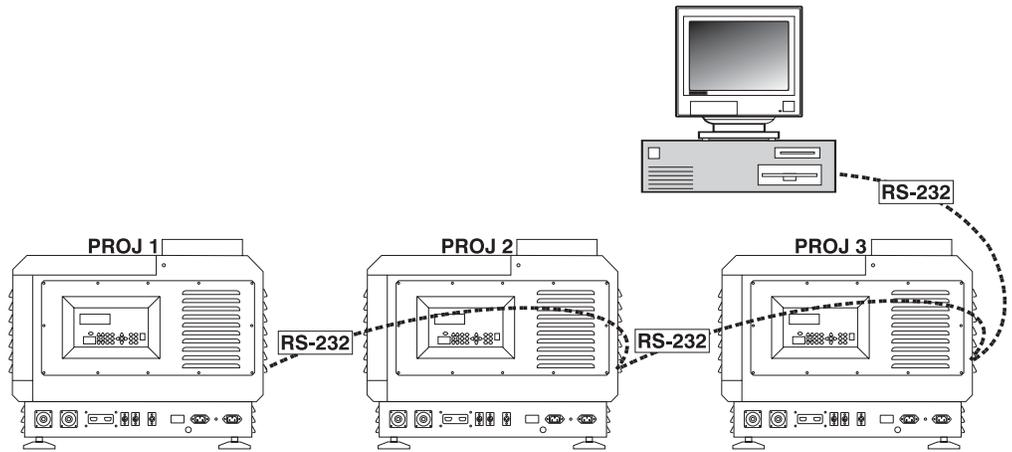

Figure 2.32. Typical RS232 Network
**RS232 NETWORK:** To control multiple projectors with a computer/controller having an RS232 interface, first set all projectors to the same baud rate as the controller, then chain the projectors together by connecting the **RS232 OUT** connector of the first projector (already connected to the computer/controller) to the **RS232 IN** connector of the next projector in the chain. Continue connecting projectors in this manner until you've reached the last projector in the chain, so that only the last projector has an unused **RS232 OUT** port. See Figure 2.32.